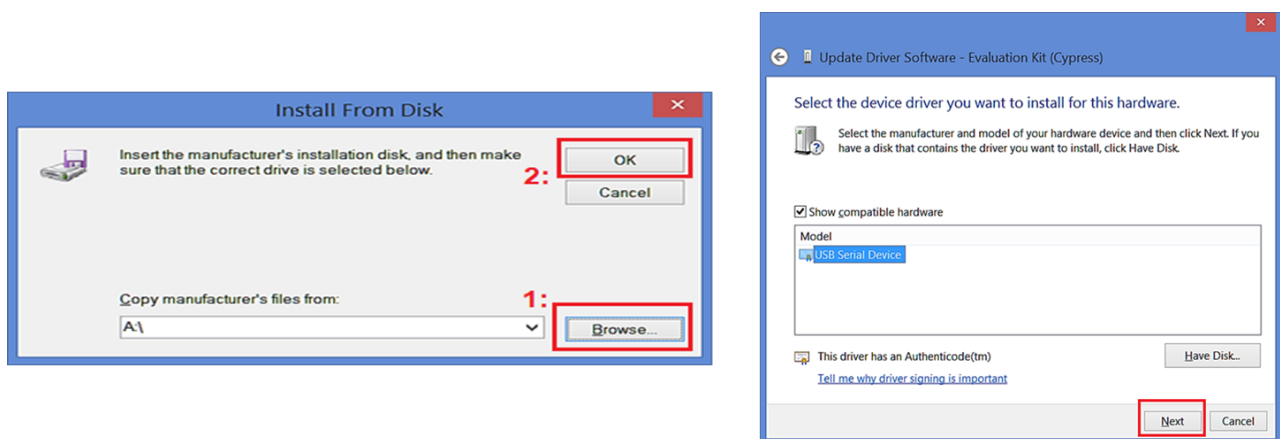

Figure 19. Update Driver Software - 5
8. Then choose "Browse" and find the downloaded inf file and then select "OK". You will be returned to an older pop-up window where you should select "Next" (Figure 19)